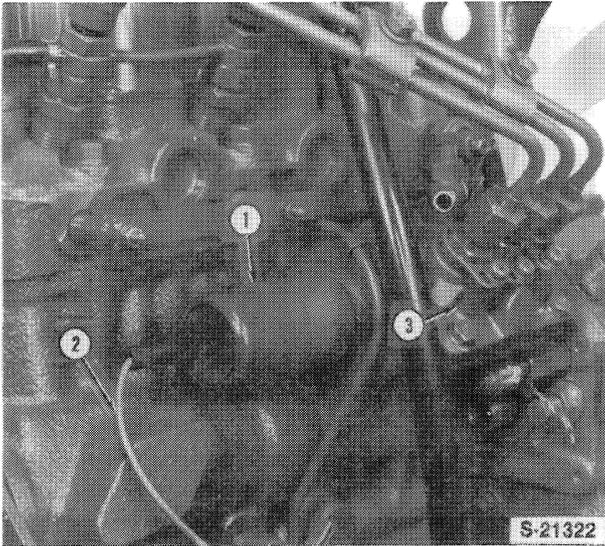

Figure 13
15. Disconnect the wire (2) from the injection pump solenoid stop control, Figure 13.